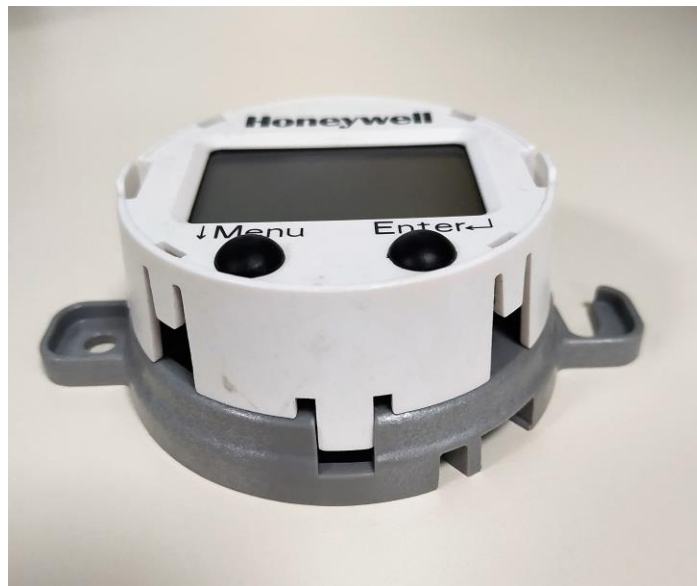

Figure 5: Standard display and bracket assembly
B) Assemble standard display module onto the bracket as shown in Figure 5. Align the display module with the slots in the bracket and push. Check if the module is fitted properly into the bracket and is tight.